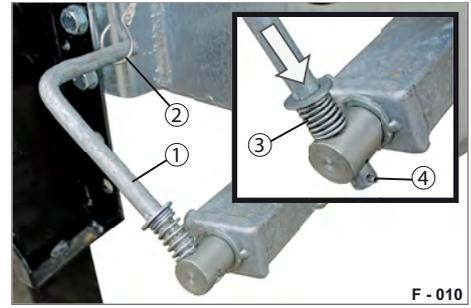
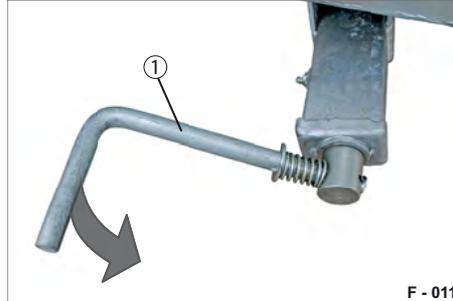

Fig. 14 Screw parking brake secured
Fig. 15 Releasing the screw parking brake
- ▶ Press the crank (Fig. 14/1) against the compression spring (Fig. 14/3).
- ▶ Turn the crank (Fig. 14/1) at the same time so the pin (Fig. 14/4) engages. Crank handle points to the chassis.
- ▶ Fit the hook of the securing cable (Fig. 14/2) over the crank.
- ▶ Release the hook (Fig. 14/2) from the crank (Fig. 15/1).
- ▶ Rotate the crank (Fig. 14/1).